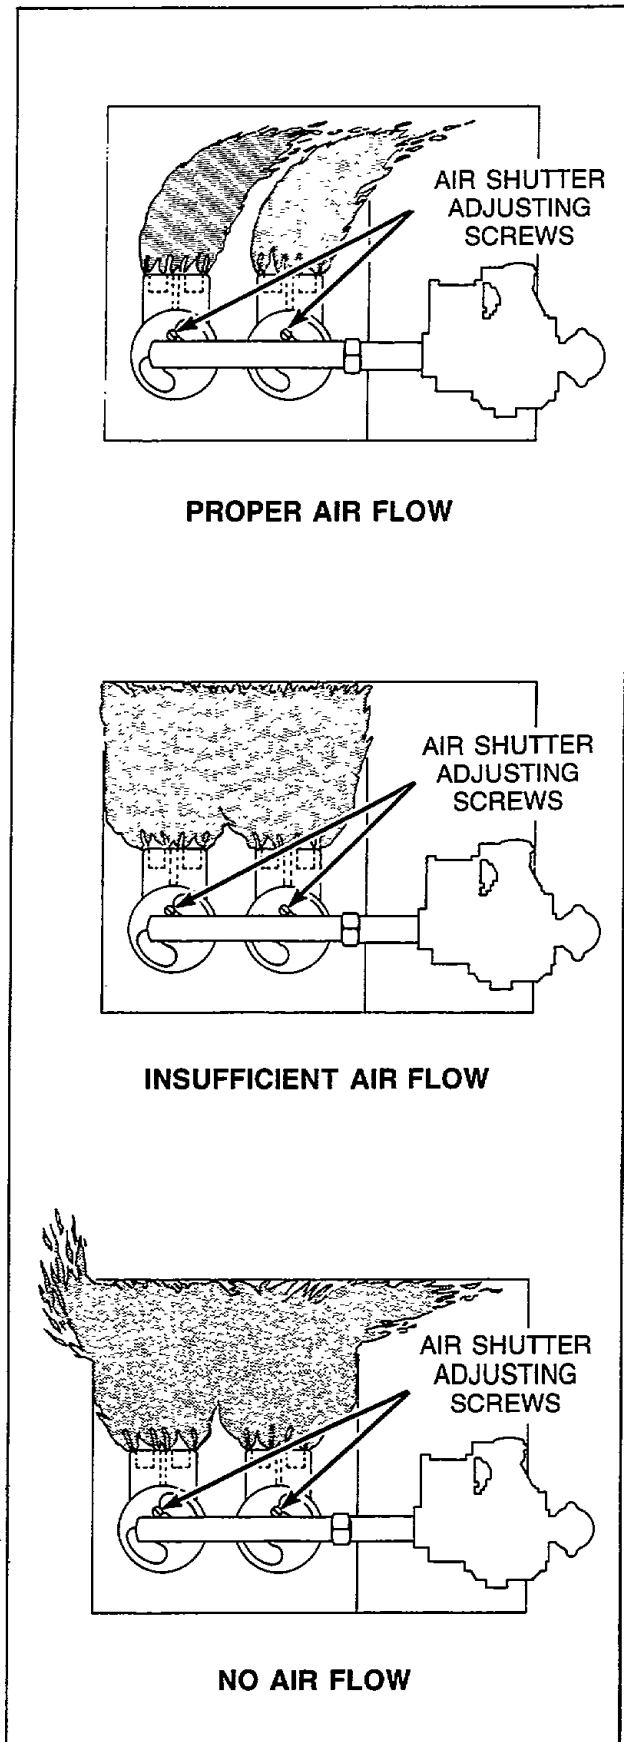

Figure 32
- b. Start the tumbler and check the flame pattern. Correct air and gas mixture is indicated if the flame pattern is primarily blue, with small yellow tips, and bends to the right of the heater section. (See Figure 32). Too little air is indicated if the flame is yellow, lazy and smokey.
- c. To adjust the air shutter, loosen air inlet shutter adjusting screw, Figure 32.
- f. If the shutter is correctly adjusted, but the flame pattern is straight up (see Figure 32), insufficient air is flowing through the tumbler and airflow switch is improperly set. A flame pattern that flares to the right and left (see Figure 32), indicates no air is flowing through the tumbler.